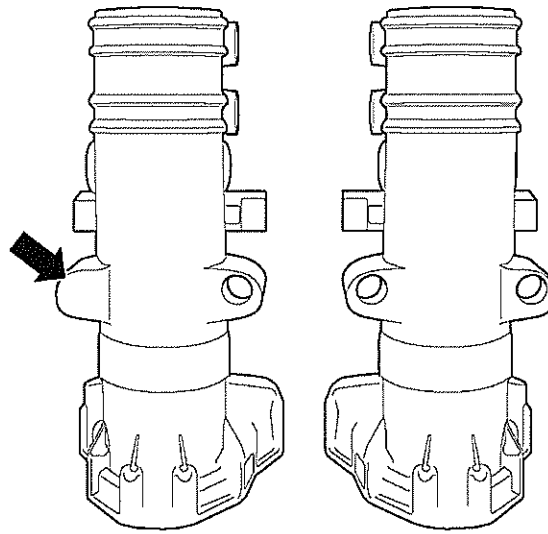

Fig 18 Portal hub assemblies
(1) After applying Loctite to half axle, fit portal hub immediately. Apply Loctite Anti-Seize compound to centring bolt and collar and thread of anti-fatigue bolts. Do not remove wedge before centring bolt is fully tightened.
(2) Original portal hub housing has only one threaded hole for spring support bolt (left or right) and must be assigned to respective half axle. Replacement portal hub housings have two threaded holes and may be used on either side of axle (see Fig 18).